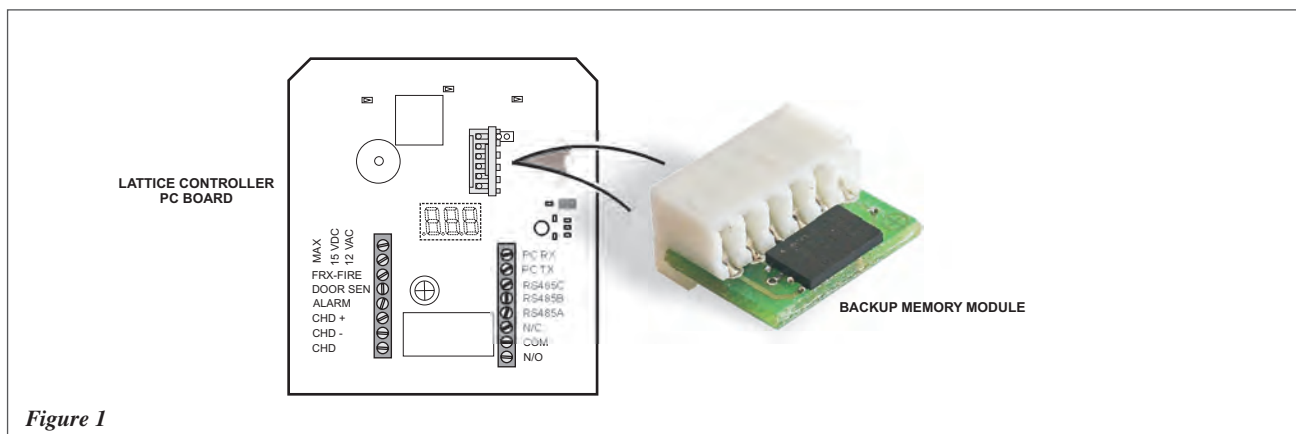

Figure 1
1. Place the memory module on the 6-pin header. (See figure 1)
3. Place the memory module on the 6-pin header. (See figure 1)